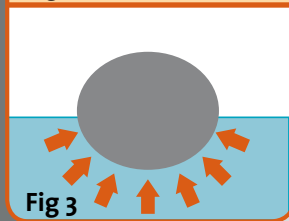

Fig 3
- differ from solids as they displace, conforming completely to the form of the client without any counterforce working against the client (e.g. floating in a pool) (Fig 3)